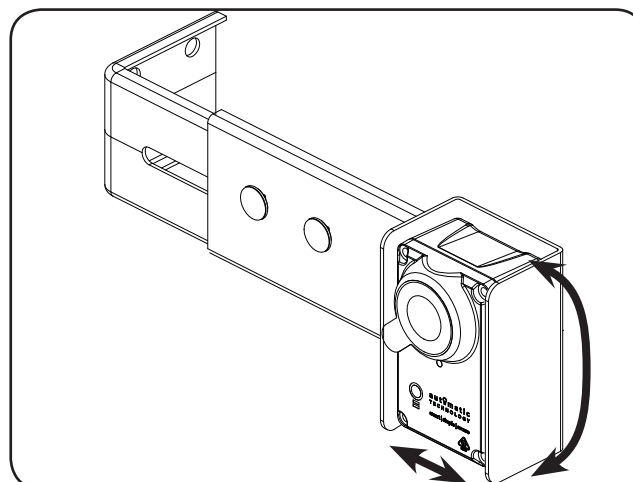

Fig 6.3.3
- Make horizontal and/or vertical adjustment on the transmitter and/or receiver until the red LED of the receiver turns steady on and operator stops beeping, indicating alignment (Fig. 6.3.3).